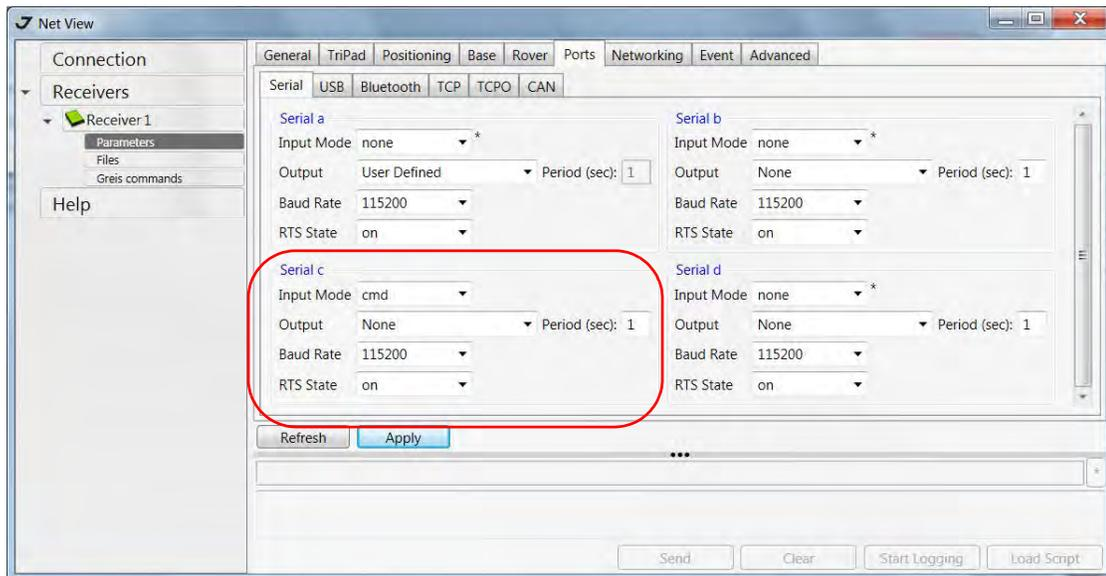

Figure 1-12. Ports tab
8. For RTK survey, open the *Ports* tab and set up the parameters according Table 1-2, then click *Apply* (Figure 1-12 on page 25).